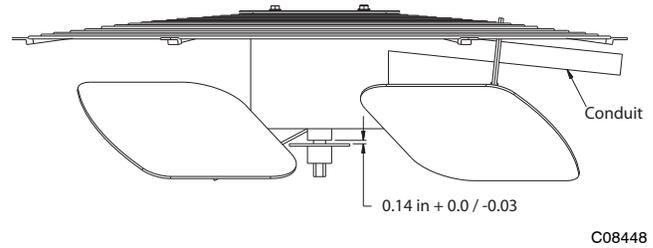

Fig. 13 - Condenser Fan Adjustment
4. Adjust fan height as shown in Fig. 13.